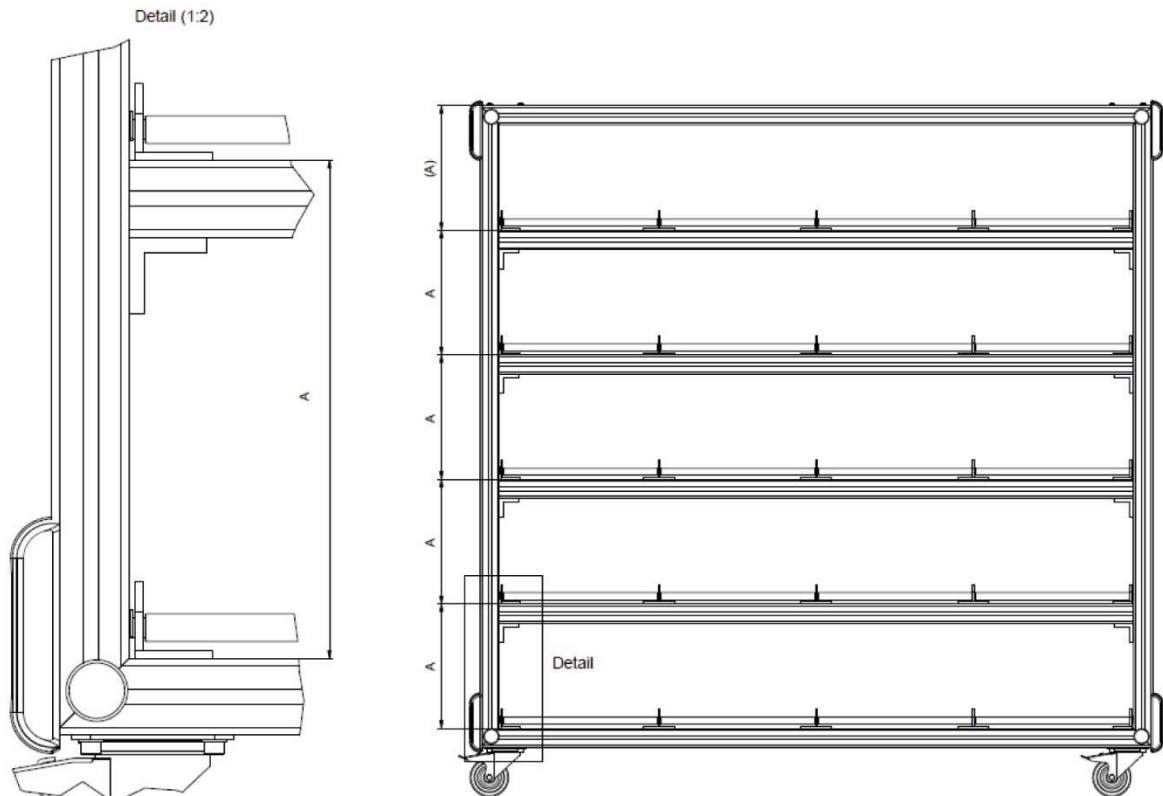

Figure 13: Dimensions for assembling brackets for upper decks
- NOTE: For the assembly dimensions of the brackets, see Figure 13 below.